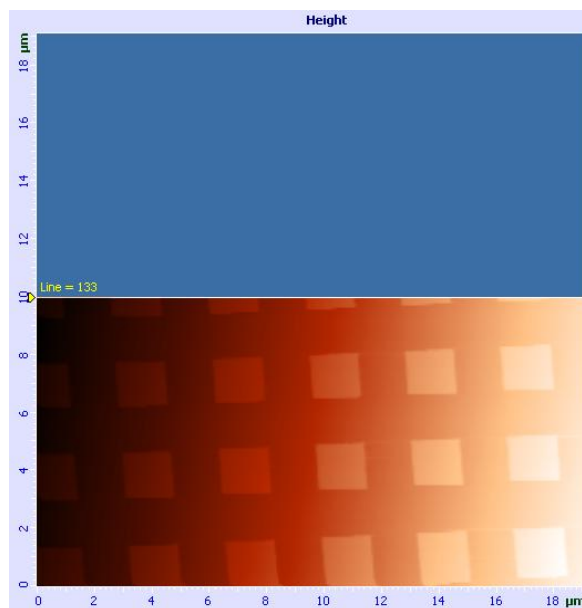

Fig. 7-18. Surface topography image
- Line-by-line scanning of the sample surface starts and the corresponding image of the scan area appears in the 2D Viewer of the scan data (see Fig. 7-18). In our example, this is an image of the rectangular grating;
Data in the example above (see Fig. 7-18, Fig. 7-19) reveal that the sample is tilted to some degree in X direction.
To activate run-time subtraction, click this button and select the **Plane** option in the corresponding list (see Fig. 7-21). This entails subtraction of the plane tilt, and the original image (see Fig. 7-18) is transformed into the image shown in Fig. 7-22.